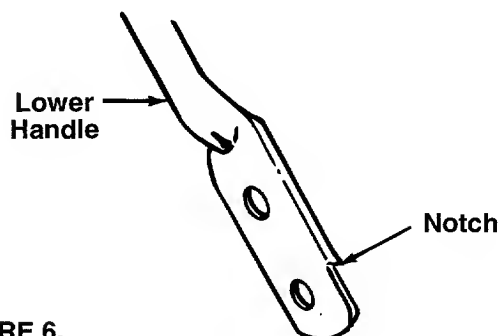

FIGURE 6.
4. Turn the lower handle around so the notch on the bottom of the lower handle is facing forward as shown in figure 6. Reassemble, placing the bottom holes in the handle over the weld pins in the handle mounting bracket.